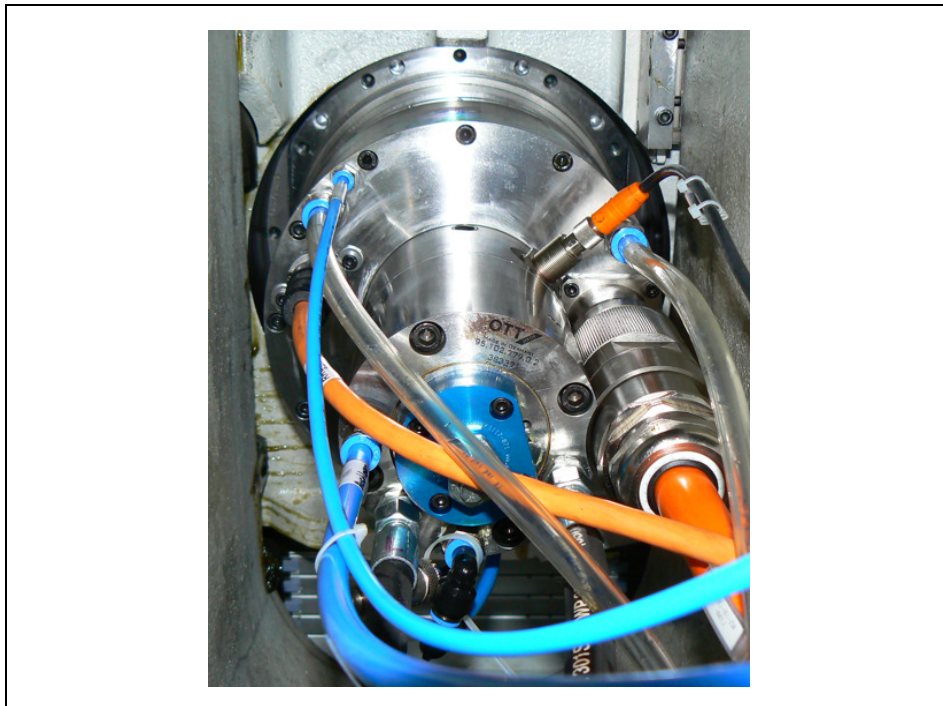
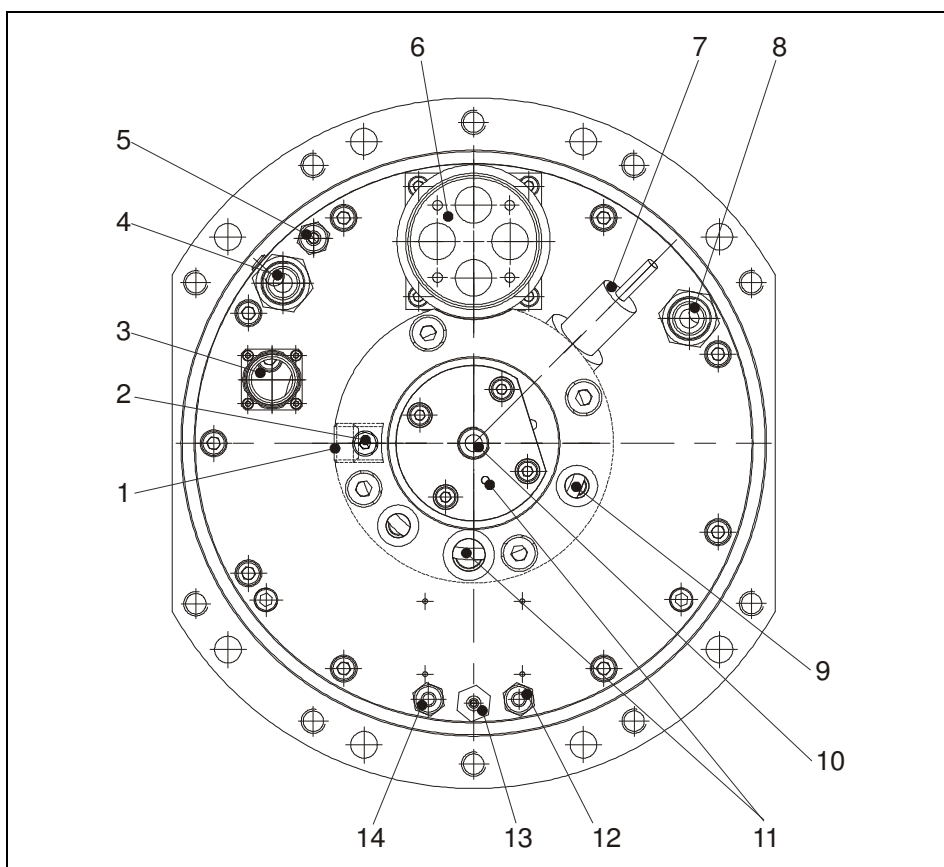

Fig. 8 Rear supply connections
Fig. 9 Supply connections on the motor spindle (view from rear)
- 7) Fit all rear supply connections (see also Fig. 8 and Fig. 9).